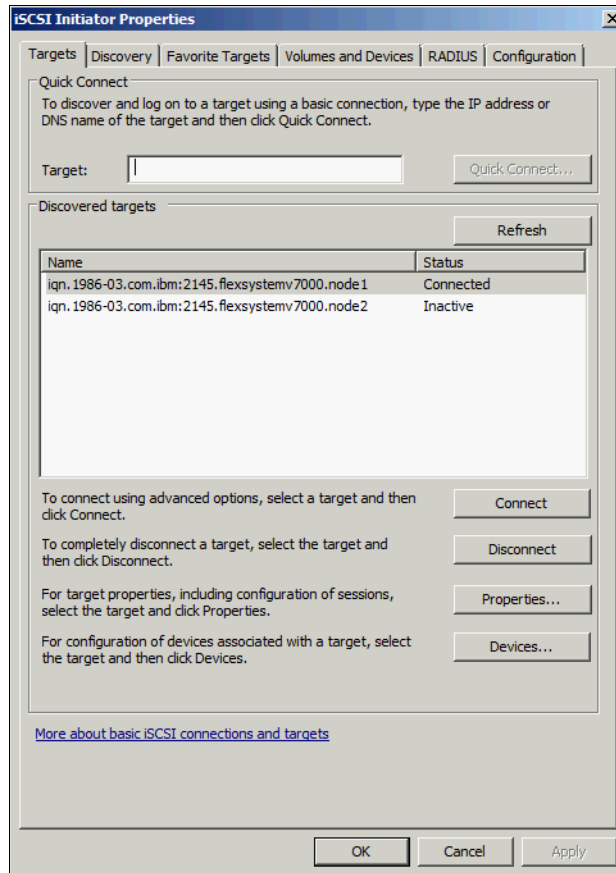

Figure 12-21 Inactive target ports
- Return to the Targets tab (Figure 12-21) and you find the new connection there is listed as Inactive.